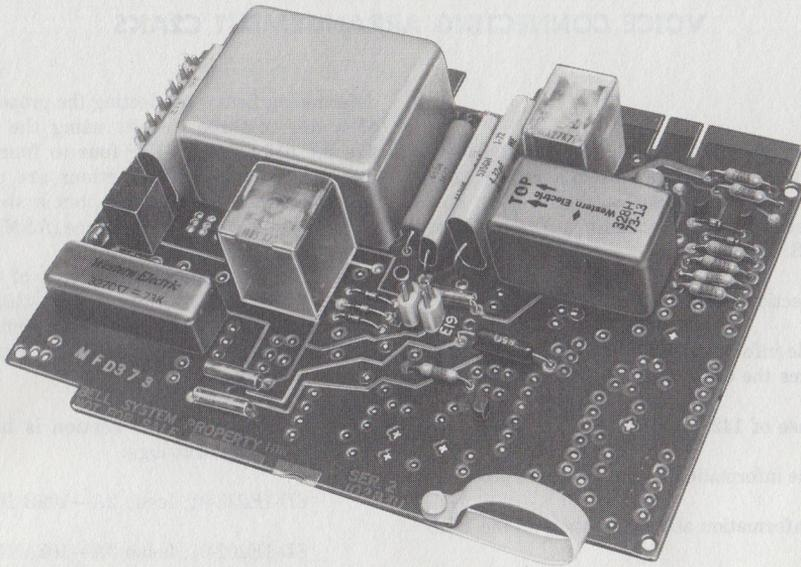

Fig. 1—102B Interconnecting Unit
**1.03** The 102B IU (Fig. 1) is an improved version of the 102A IU (MD) providing option terminals for matching the impedance of the customer-provided equipment (CPE) to the central office (CO) line. The 102B IU does not require pulse correction. In existing installations using pulse correction, the 103A IU (MD) pulse correctors must be removed when replacing the 102A IUs with the 102B IUs. The 102B IU also increases the range limitation to the CPE from 18 ohms to 100 ohms maximum on the supervision leads (CS and CG).
- Unit, Interconnecting, 102A or 102B (one per CO trunk, Fig. 1).